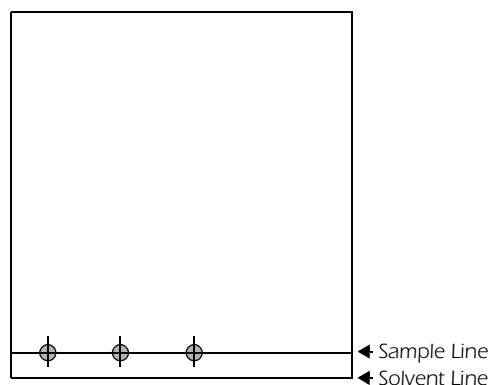

Figure 1: TLC Start
**Zx** — The distance the spot has traveled from its origin (sample line). Refer to Figures 1 and 2.